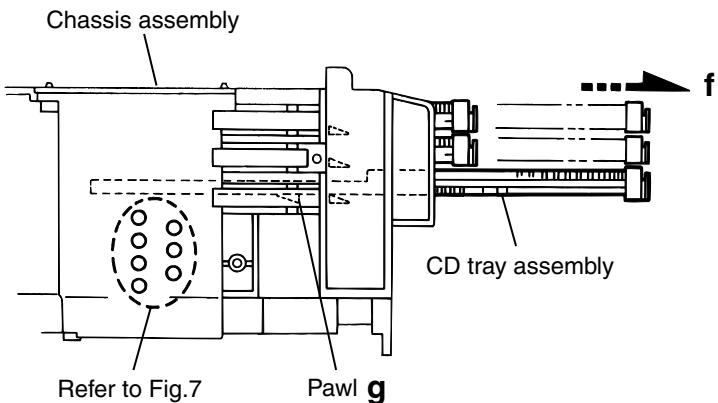

Fig.6
12. Make sure that the driver unit elevator is positioned as shown in Fig.6 from the second or fifth hole on the left side face of the CD changer mechanism assembly.
(See Fig.6).